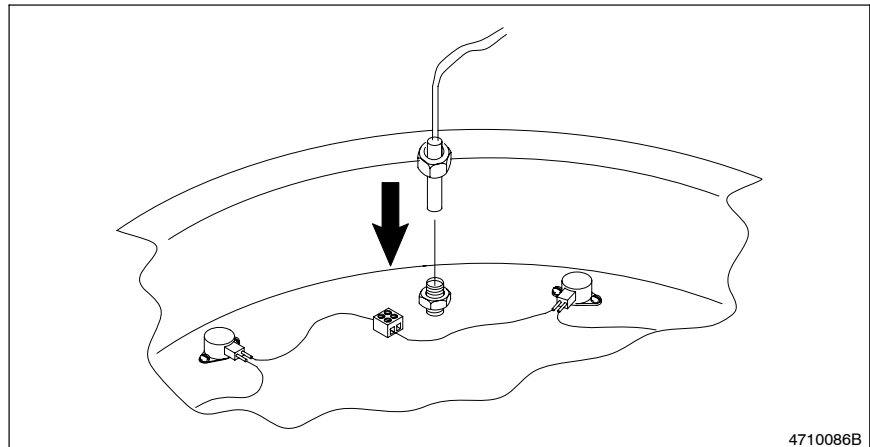

Fig. 7-10 Installing the Replacement RTD
8. See Figure 7-10. Insert the RTD into the platen and push it down as far as it will go. Secure with the connector nut.